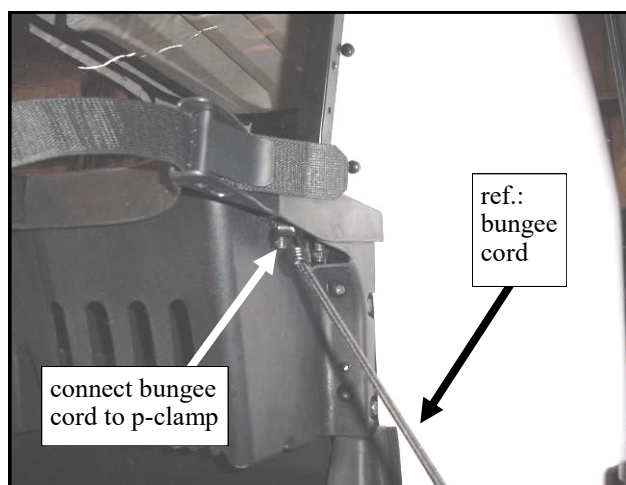

Fig. 10.2 (view from rear of passenger's side)
10.2 Per fig. 10.2 and with the door open and towards the rear of the vehicle, stretch and connect the bungee cord to the newly installed p-clamp to keep tension on the door in the open position. Repeat for driver's side.